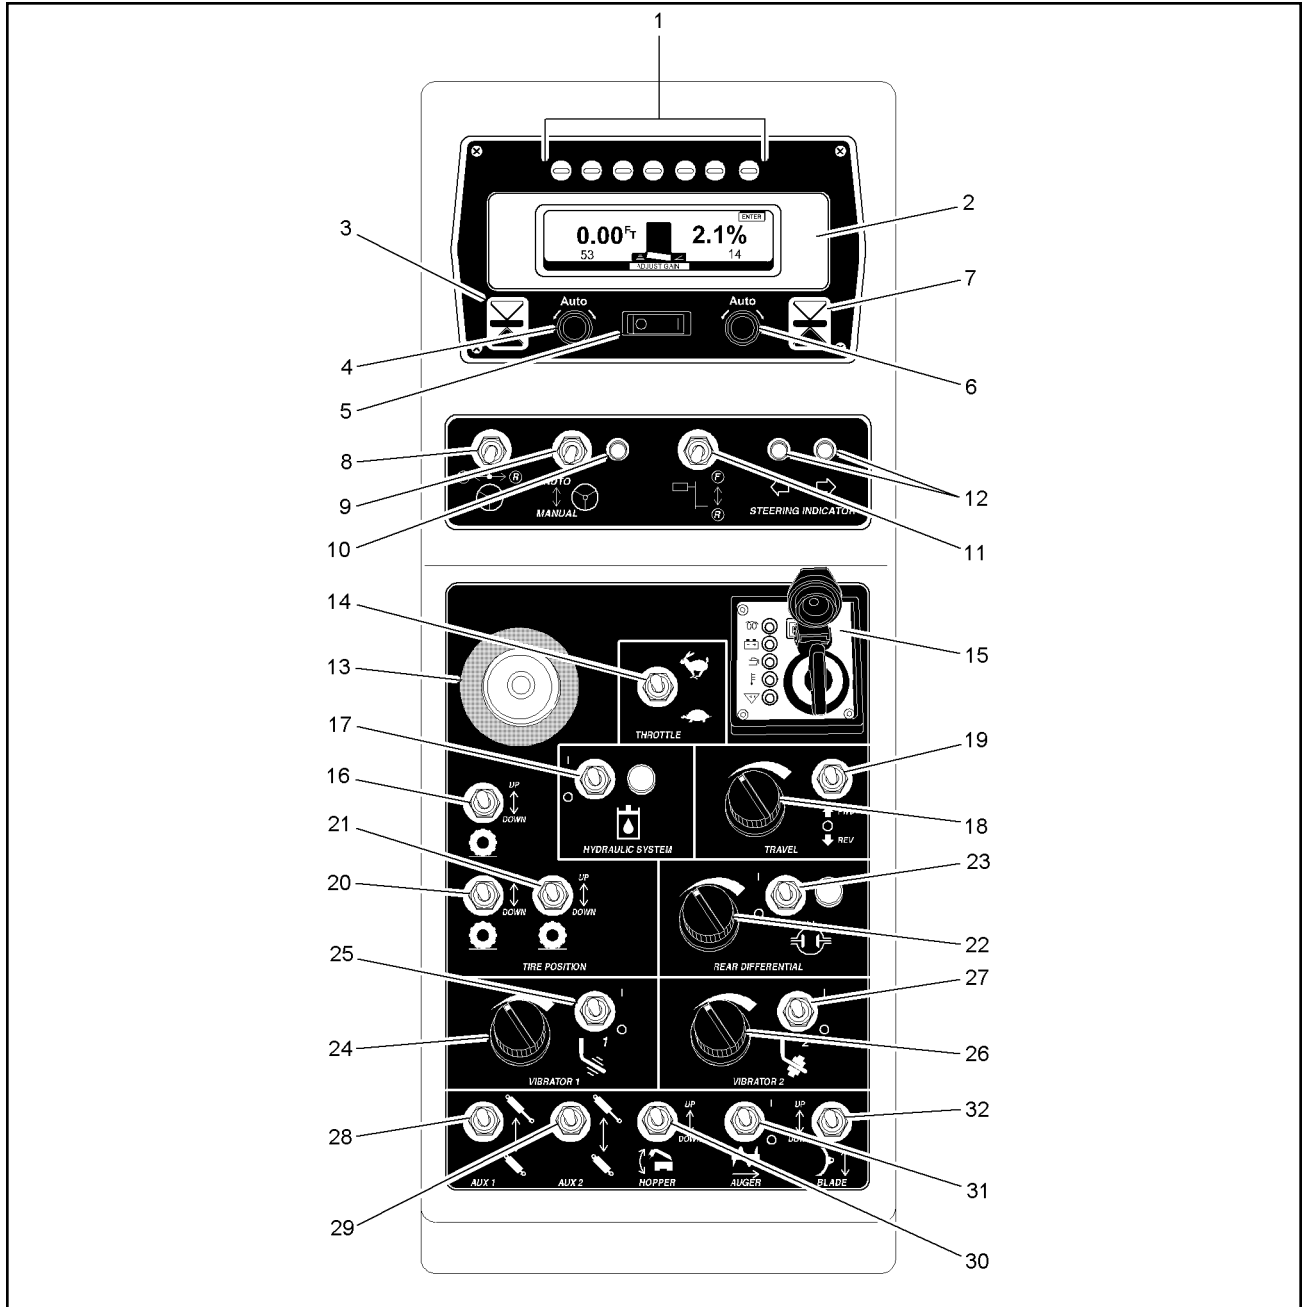

FIGURE 3-1. MAIN CONTROL PANEL
The operating controls for the LBC-24W Curber are shown in Figures 3-1, 3-2, and 3-3. Their functions are listed in Tables 3-1, 3-2, and 3-3. The controls and indicators are mounted on the Main Control Panel at the rear of the machine. Remote controls are mounted on the left side front of the machine.
The Main Control Panel located on the control pedestal contains indicator lamps for monitoring engine operation, ignition switch, system control switches, throttle control, and the Top-Con computer control system (Figure 3-1).
The ignition switch panel is mounted on the control panel (Figure 3-1, item 15).